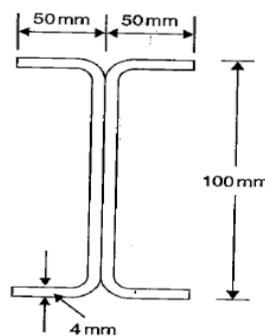

Figure 2
3. Find the permissible load on the column shown in the Figure2. The effective length of the column is 3m
4. Calculate the permissible load on the column section shown in Figure2. The effective length of the column is 3m.